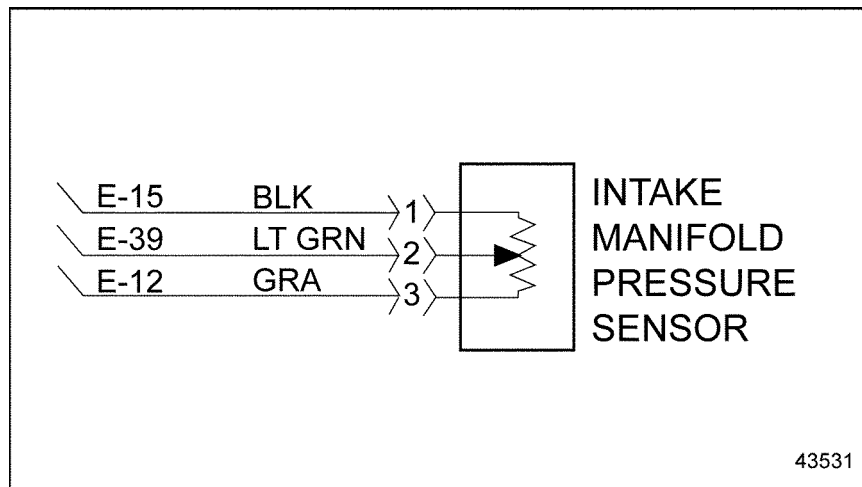

Figure 36-4 Turbo Boost/ Intake Manifold Pressure Sensor
5. Check terminals at the TBS/IMP Sensor connector (both sensor and harness side) for damage: bent, corroded, and unseated pins or sockets. See Figure 36-4.